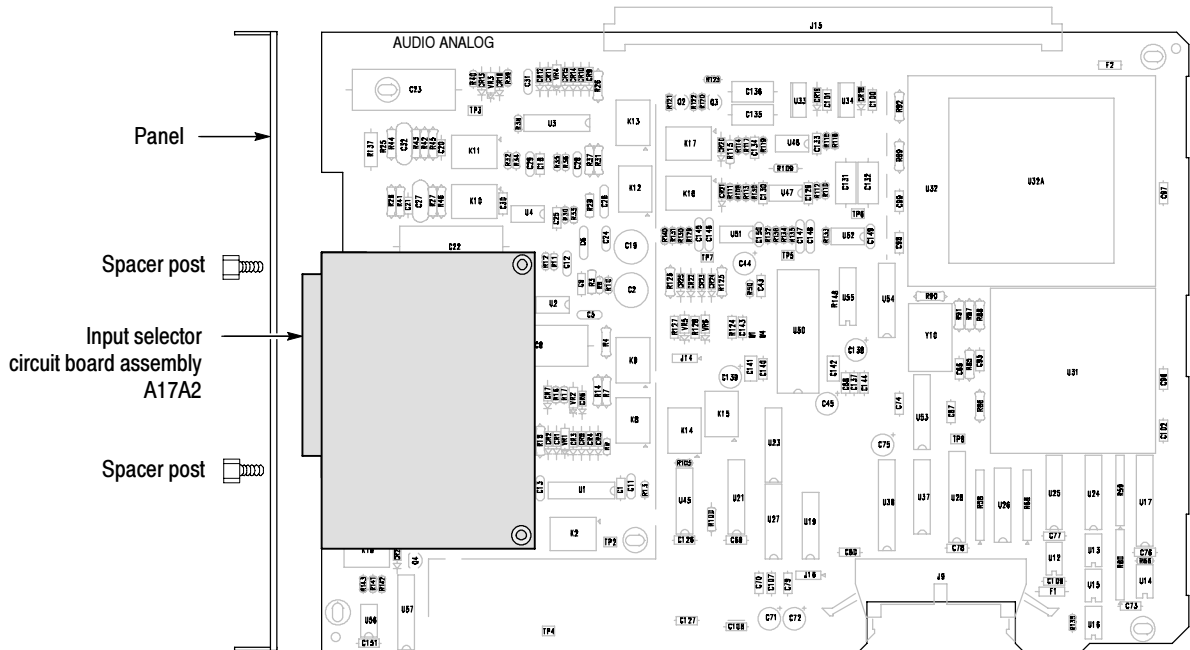

Figure 18: Audio Analog circuit board showing the location of the Input Selector circuit board (shaded)
- c. Install the 6-Input Selector circuit board in the location as shown in Figure 18. Align the pins of J1 and J2 with the two connector housings labeled J17 and J18 on the Audio Analog circuit board. Note that the circuit board is installed component side down.